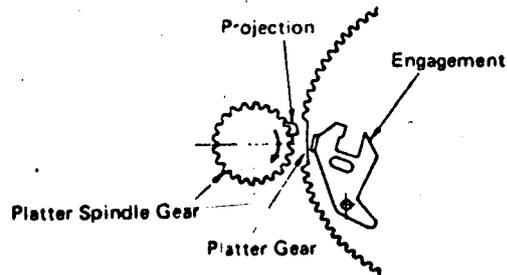

Fig. 4
1. When playing, the notch of the main gear position relative to the turntable spindle gear is as shown in Fig. 4.